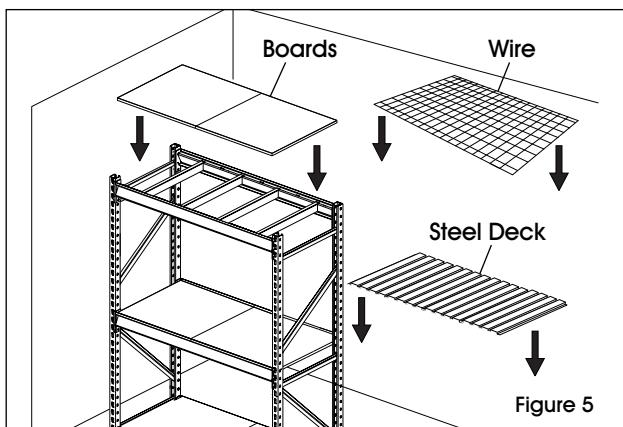

Figure 5
6. Set boards, wire or steel decks in place on top of shelf beams and shelf supports. (See Figure 5)